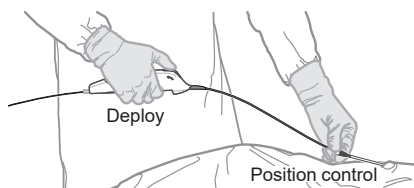

Figure 2. Hand placement for stent deployment
7. While holding the device with one hand, use the other hand to gently support and position the isolation sheath at the hemostatic valve (see Figure 2). Do not constrict the retractable sheath during deployment.